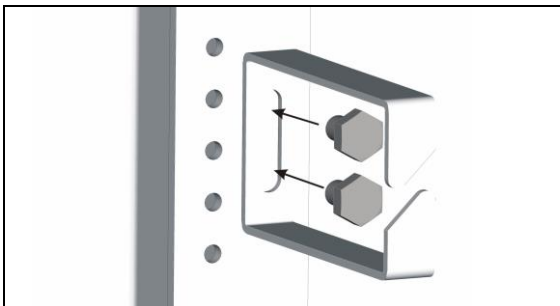

Figure 2. D-Ring installation
- b) Insert two screws (not supplied) through the inside of the D-Ring, as shown in Figure 2, and fasten them securely to the mounting rail. For mounting to preinstalled studs, use appropriately sized nuts and lock washers for fastening.